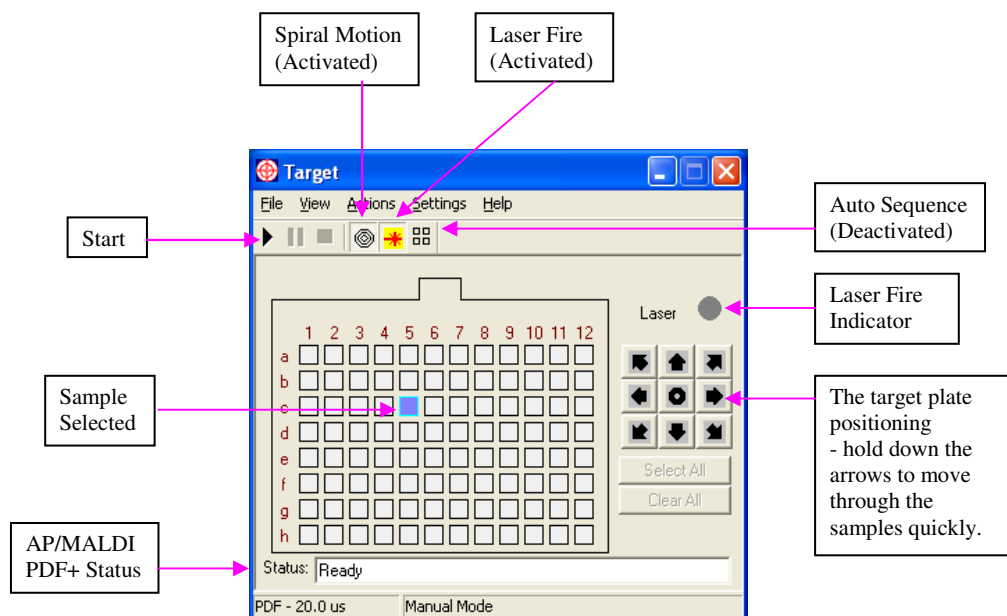

Figure 7.15 Target Software Controls
1. Deactivate the “Auto Sequence” button in the *Target Software* window (See Fig. 7.15 for the location of the auto sequence button).